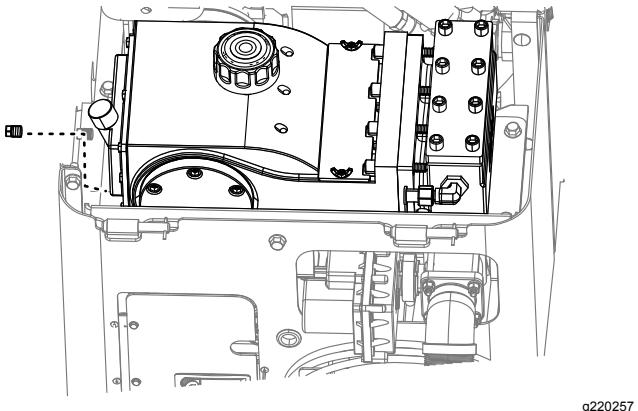

Figure 117
4. Remove the drain plug and place a drain pan under the drain-plug hole (Figure 117).
6. Allow all of the oil to drain into the oil pan (Figure 117).
8. Remove the oil-filler cap (Figure 117) and add approximately 1.9 L (2 US qt) of oil, or until the oil reaches the oil-fill line on the dipstick as shown in Figure 116.